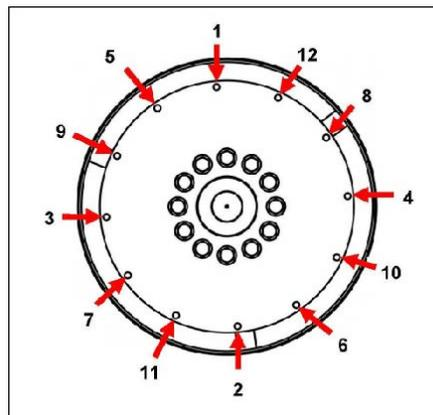

FIGURE 24. FIXING SEQUENCE
10. Remove the alignment dowels. Fit the coupling bolts, using heavy gauge washers under the heads. Tighten the bolts to fix the coupling disc to the flywheel, in the sequence shown in Figure 24 on page 43.